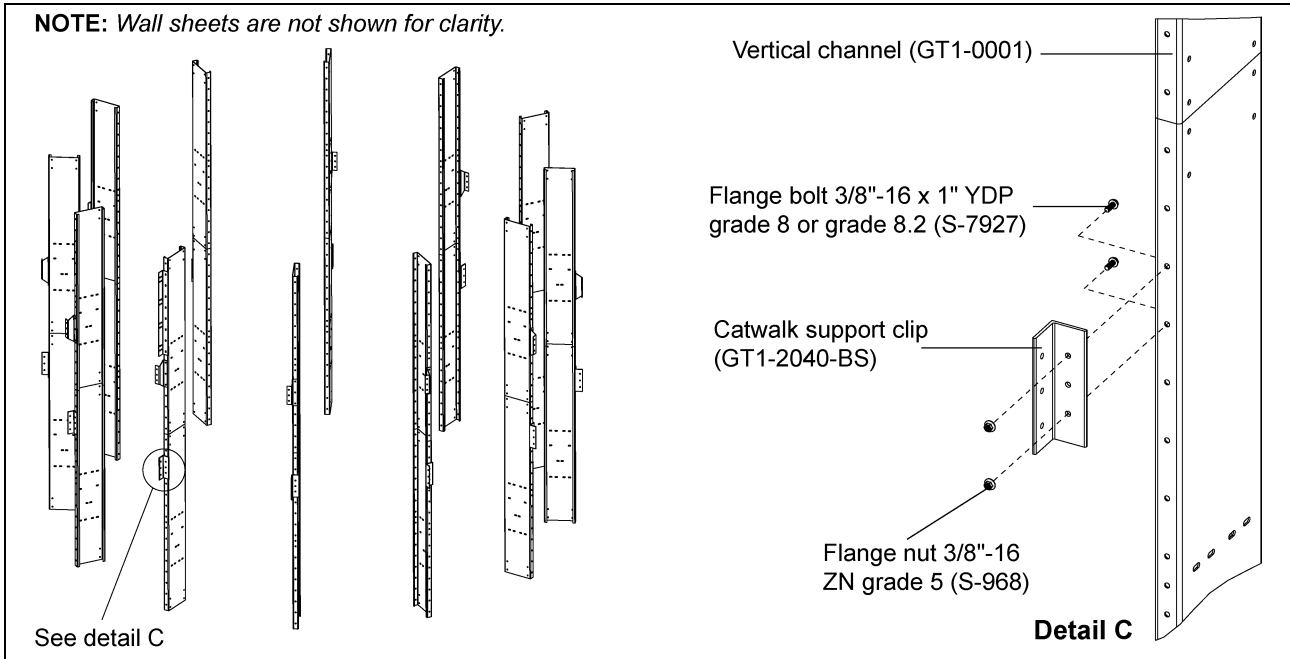

Figure 4E
1. Install catwalk support clips (GT1-2040-BS) to all vertical channels (GT1-0001). Support clip can be installed on each vertical channel as the wall sheets are installed using 3/8"-16 x 1" YDP grade 8 or grade 8.2 bolts (S-7927) and 3/8"-16 ZN grade 5 nuts (S-968). (See Figure 4E.)